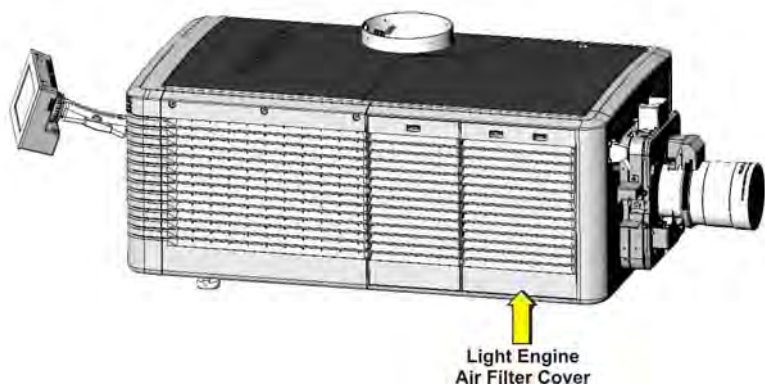

Figure 5-13 Light Engine Air Filter Cover
2. Remove the light engine air filter cover (including filter). **(Figure 5-13)**
1. Push down on the two snap tabs at the top of the cover. **(Figure 5-13)**